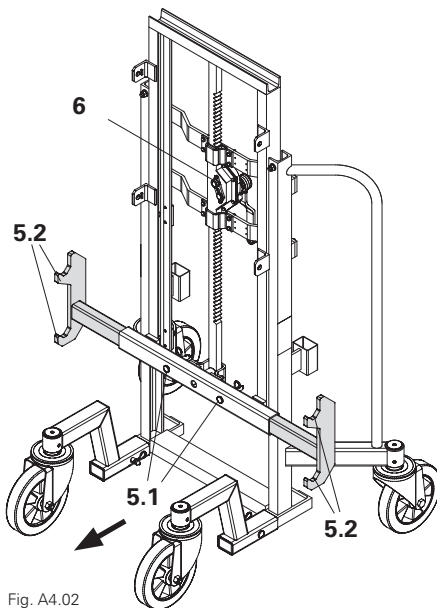

Fig. A4.02
(Fig. A4.02)
2. Pre-adjust connection height with the winch (6).
- (Fig. A4.02)